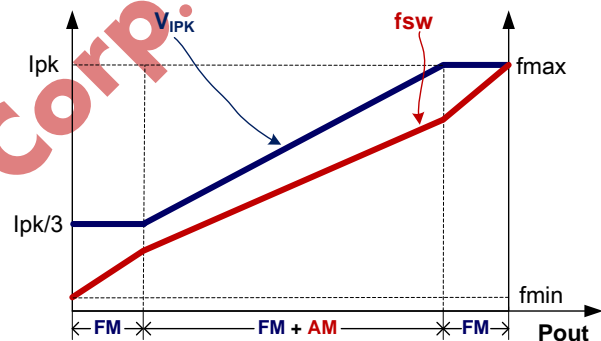

Fig.1
To meet the tight requirement of averaged system efficiency and no load power consumption, a hybrid of frequency modulation (FM) and amplitude modulation (AM) is adopted in KP321X which is shown in the Fig 1.